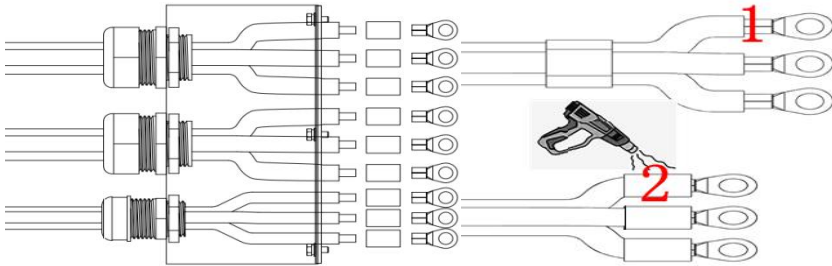

Fig. 6.3.3.2
- ④. Fix the wiring terminals shown in Fig. 6.3.3.2 to the GEN terminal block on the case shown in Fig. 6.3.2.1 (three ones on right side of the AC terminal block) with the screws (provided for free). At the same time, respectively match L, N, PE with the L, N and PE on the case. Then fix the waterproof cover to the case with the screws, and finally tighten the waterproof cap 5 to prevent water and dust from entering the case.